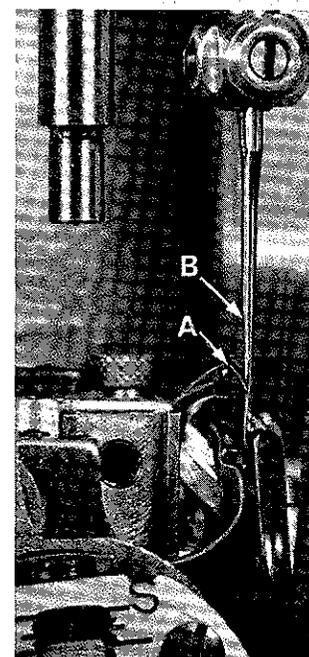

Fig. 7
The looper is set correctly in line-of-feed, if, as it moves to the left, behind the needle, its point (A, Fig. 7) brushes, but does not pick at the rear of the needle (B).
The height of the needle (B, Fig. 7) is correct when the top of its eye is  $3/64$  inch below the underside of the looper,